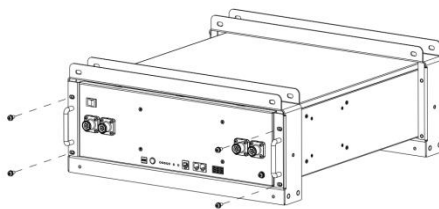

Figure 3-5
1. Place the Lithium Series 51.2V 5.12 kWh and brackets as shown in the figure 3-5, and insert the Lithium Series 51.2V 5.12 kWh into the brackets. Use 4 screws to fix the module on the front bracket.